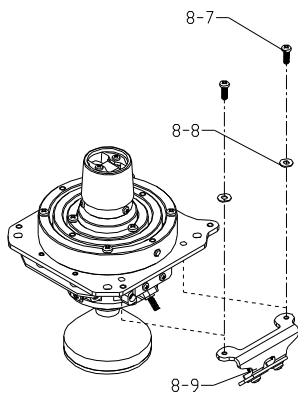

Figure 5
- Using a Phillips screwdriver to screw off the 2 crosshead plate screws M2.5×8(8-7#), and take off the 3# alarm circuit board parts (8-9#) shown in figure 5.